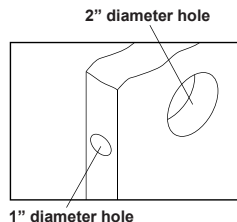

Fig. 15
**Step 2.** Bore a 54mm (about 2" or 2 1/8") hole on door face, then drill a 25mm (about 1") hole into the edge of the door so that it intersects with the larger hole (Fig. 15).
- (N)** • When drilling the 54mm (about 2" or 2 1/8") hole, it's recommended to drill from both sides of door to stop the wood from splintering.